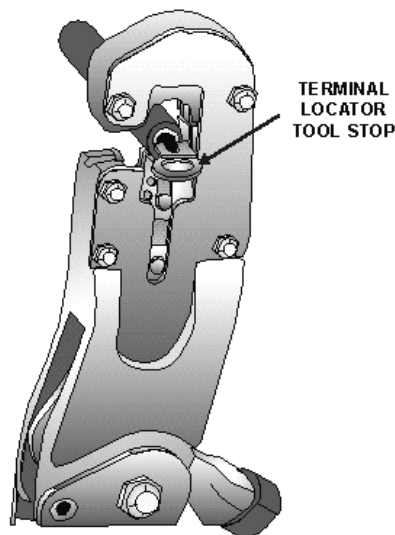

Figure 2-21.—Crimping tool with terminal lug inserted.
3. Insert the terminal lug, tongue first, into the wire side of the hand tool barrel crimping jaws. Be certain the terminal lug barrel butts flush against the tool stop on the locator. See figure 2-21 for the correct insertion method.